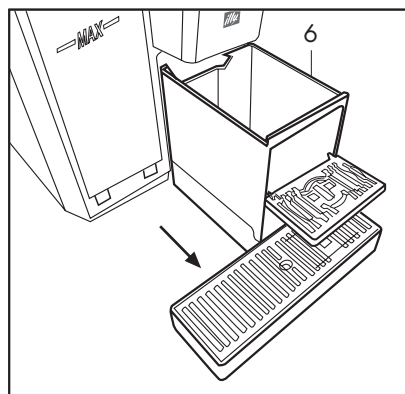

Fig. 15
- When the capsule container (6) is full the machine stops; the red alarm LED lights up and the message A03 appears on the Display (13); the capsule drawer is full.
Take out the capsule container (6), empty it and rinse it (Fig. 15). Clean the drip tray and the grid to remove residue of water and coffee.